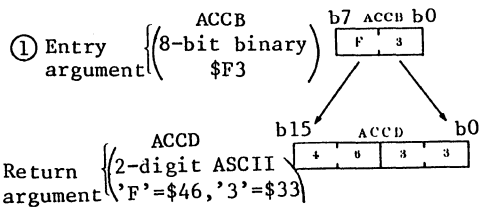

Fig. 1 Example of COBYTE execution
(b) Fig. 1 shows example of COBYTE
execution. If entry argument is as shown in part ① of Fig. 1, data converted from 8-bit binary data into ASCII is contained to ACCD as shown in part ② of Fig. 1.